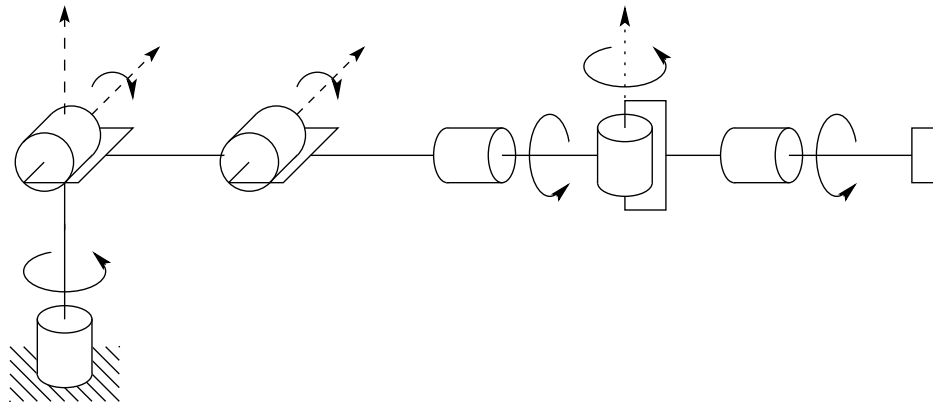

Figure 1: Q1
1. Figure 1 shows a cylindrical robot with spherical wrist. For this configuration